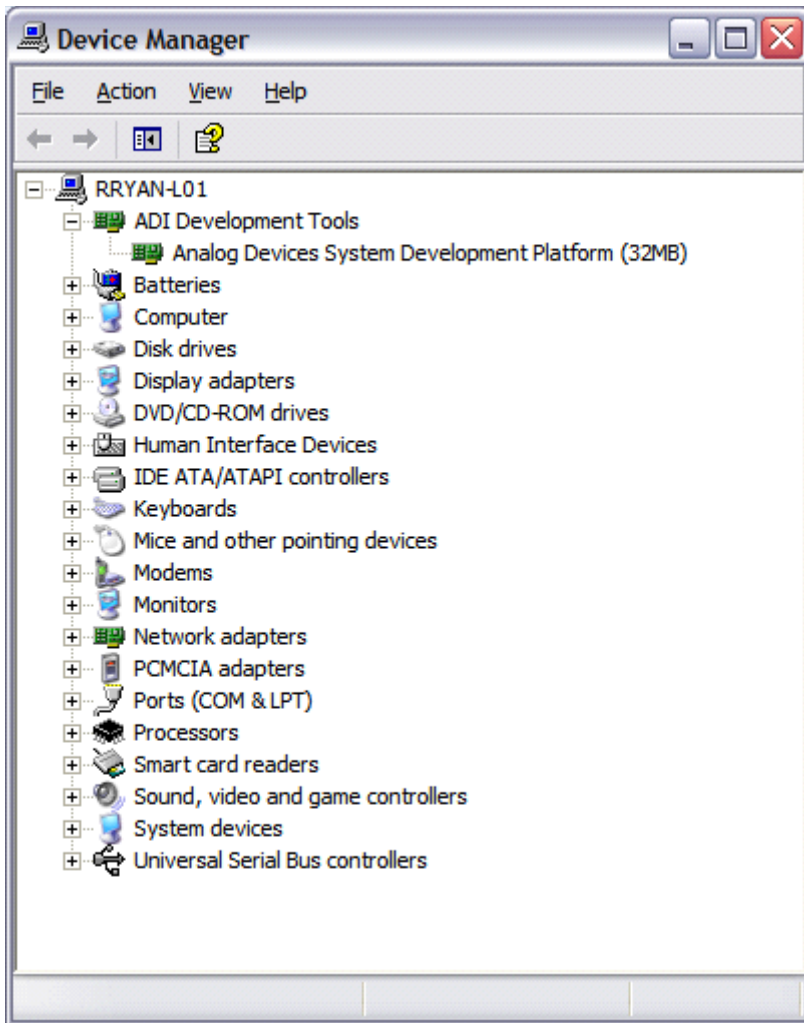

Figure 1-1. Device Manager
- Open the Windows Device Manager and verify the SDP board appears under ADI Development Tools as shown in Figure 1-1.